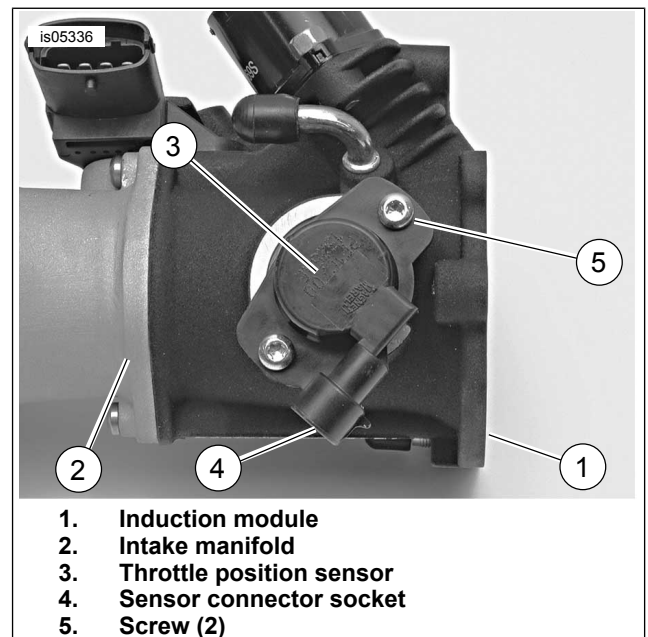

Figure 2. Remove Throttle Position Sensor
3. See Figure 2. Remove throttle position sensor harness connector from socket (4).